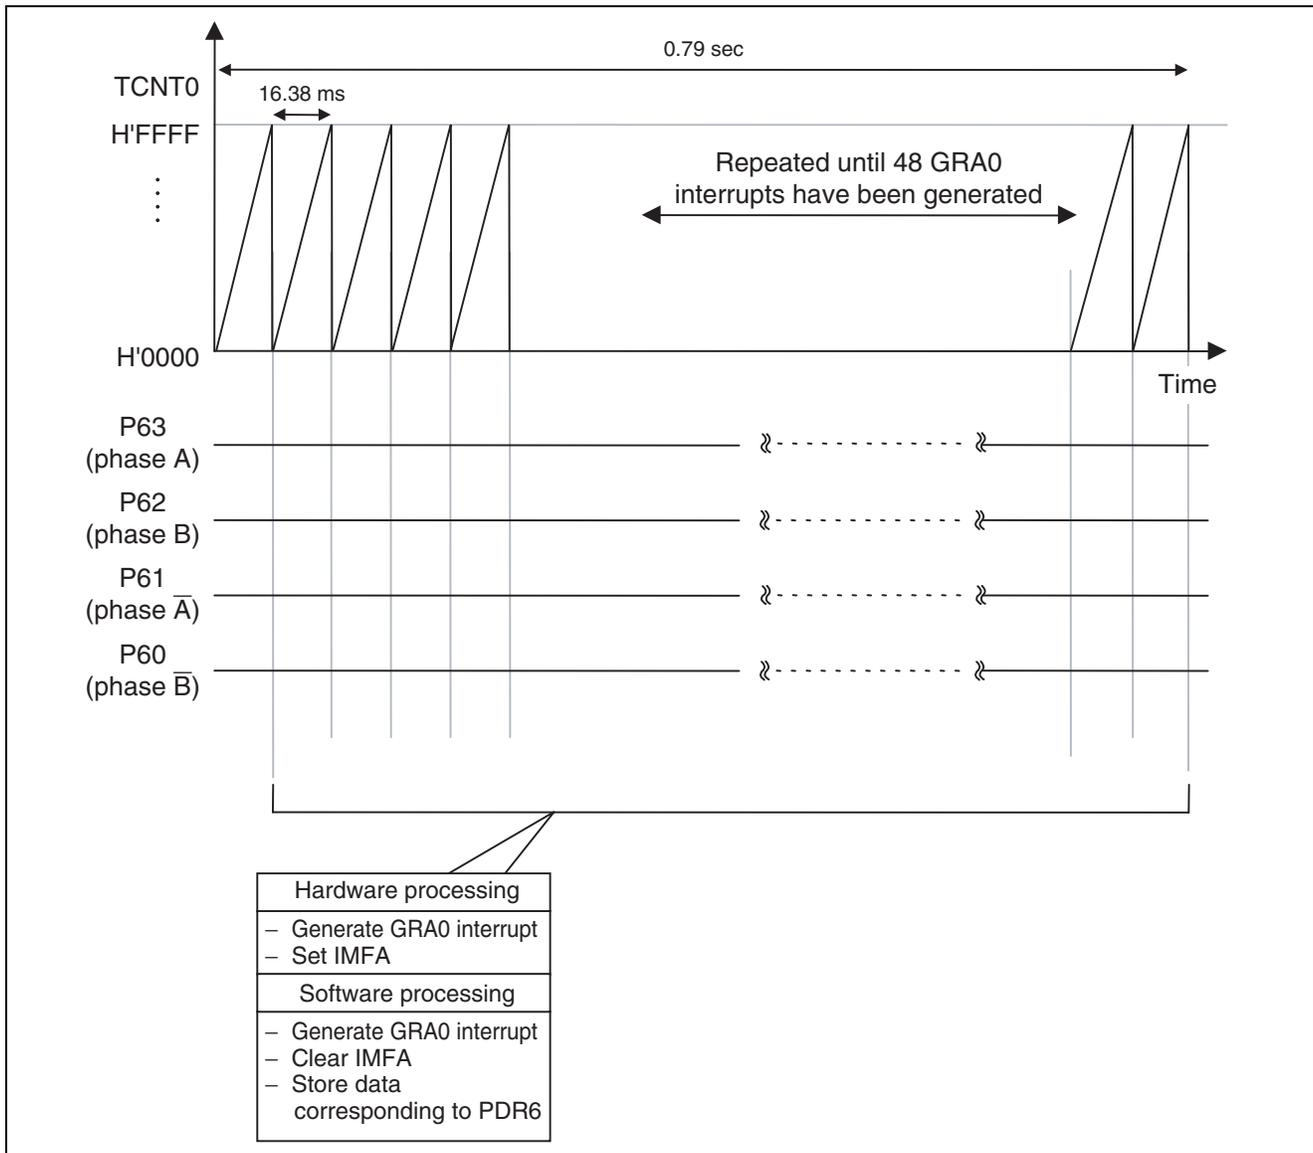

Figure 11 Principle of Stop Control
3.8 Figure 11 illustrates the principle of stop control.